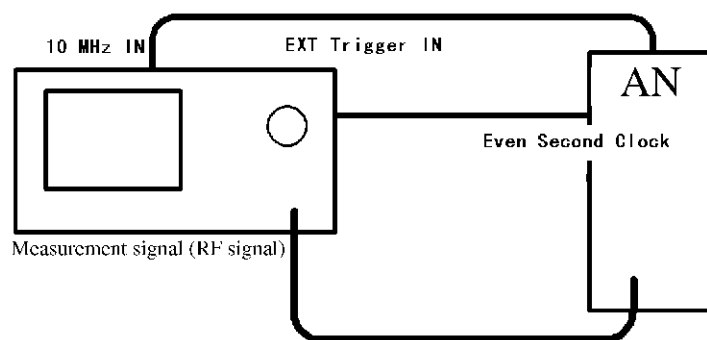

Figure 2-1 Connection for Code Domain Measurements of the Access Network Signals
1. Connect the equipment as shown in Figure 2-1.